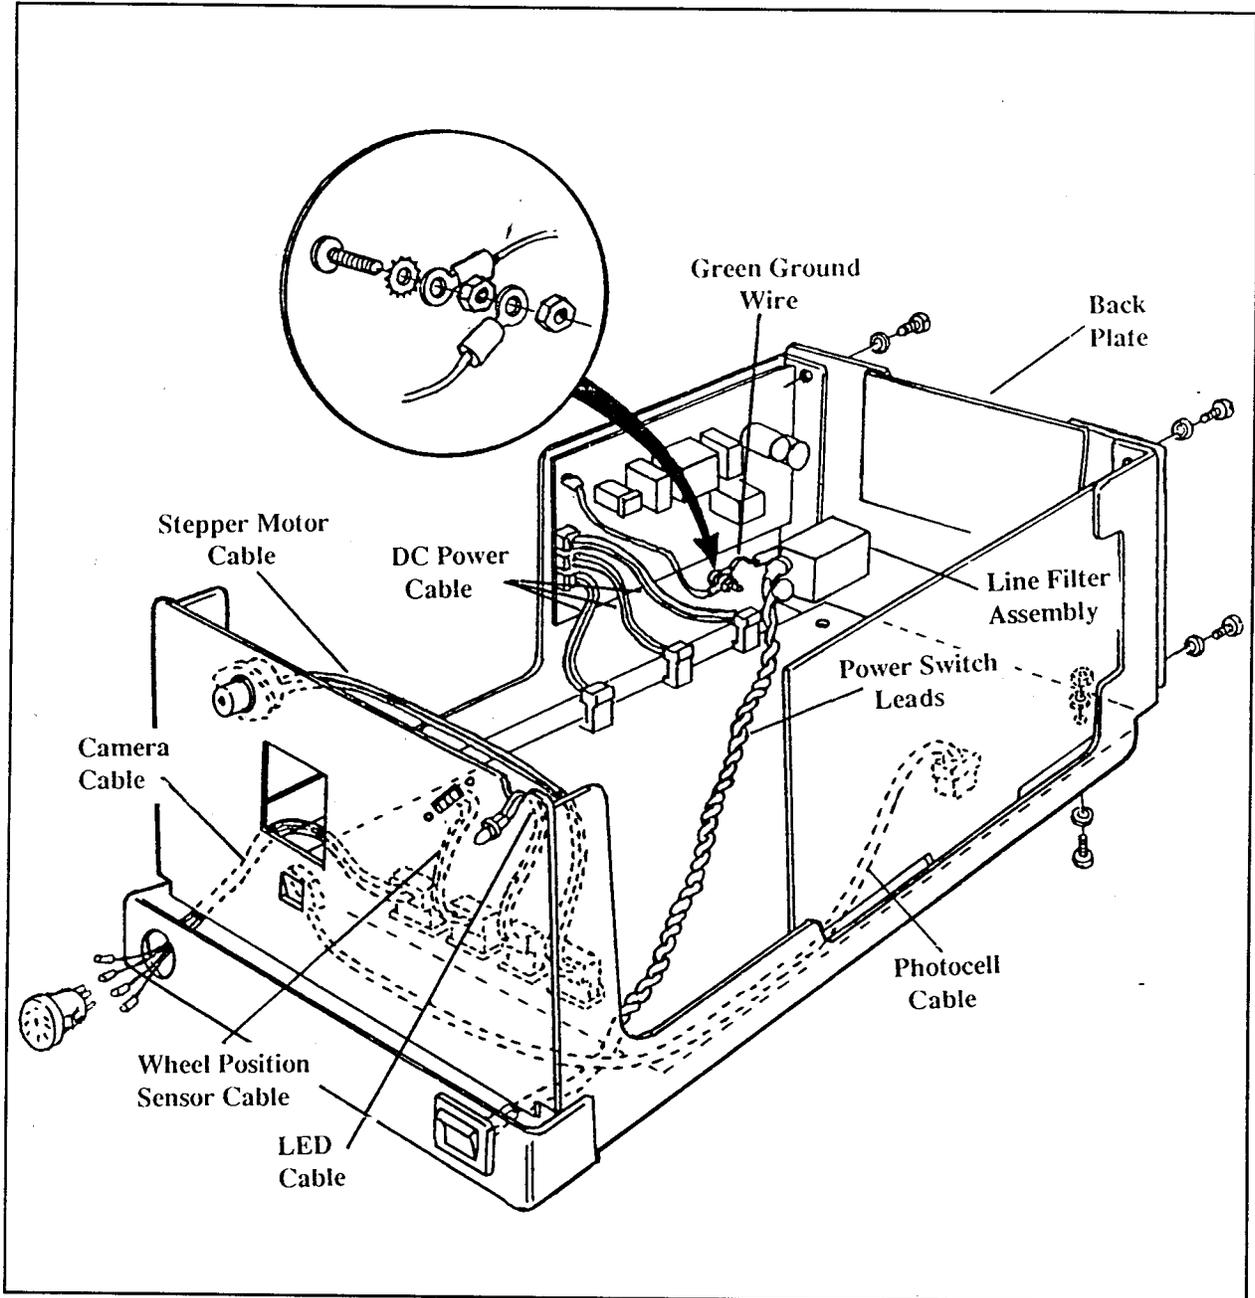

Figure 4-10 Logic Board Assembly Replacement
2. REMOVAL: (Figure 4-10)
- f. Disconnect the green ground wire which is secured to the chassis with a # 8 hex nut and bolt (inset, figure 4-10).
1. REMOVAL: (Figure 4-10)